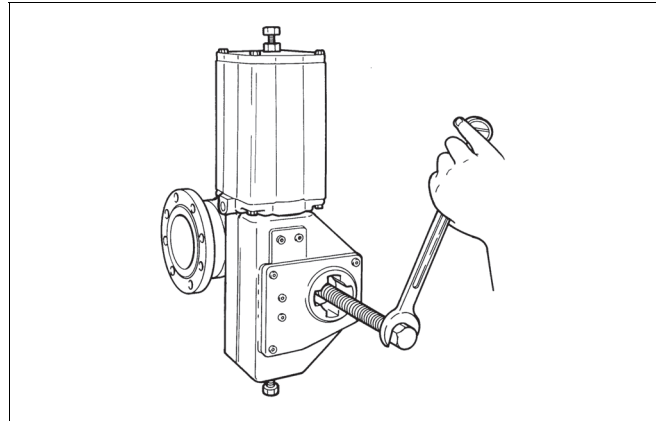

Fig. 40 Detaching an B series actuator
- Detach the actuator using a suitable extractor, see Fig. 40. The tool can be ordered from the manufacturer.